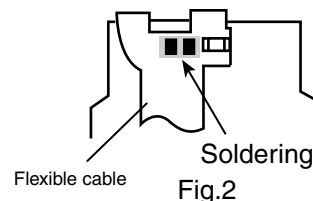

Fig.2
3. Solder is put up before the card wire is removed from connector CN601 on the main board as shown in Fig.1 and Fig. 2.